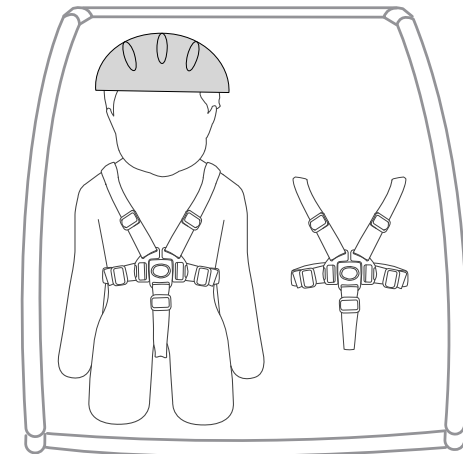

Figure 18
3. When using double trailer with one child, always seat the child in the right side position (Figure 18).